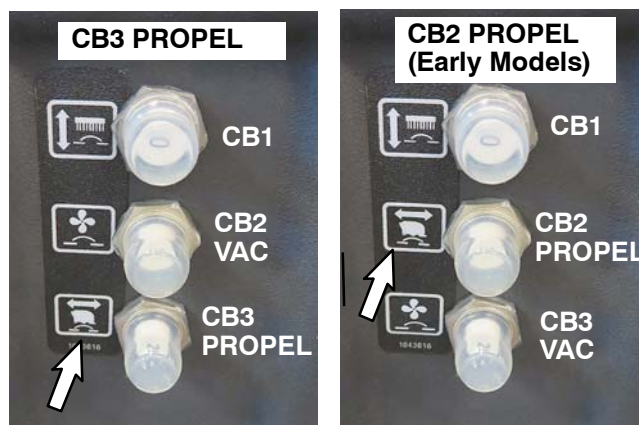

Fig. 11
11. Depending on when the machine was manufactured, the PROPEL circuit breaker may be positioned and identified as CB2 or CB3 as shown below (Figure 11). Follow the below instructions according to CB Panel configuration.